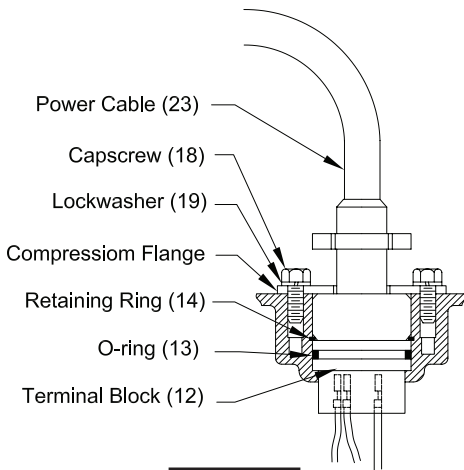

Figure 7
Pull the terminal block (12) out of the housing (10) using a T-bolt or a pair of pliers and a .25-20 screw in the threads of the terminal block (12) see Figure 7. Leave slack on the motor leads connected underneath. Use needle nose pliers to pull each female connector off of the pins on the underside of the terminal block (12). The voltage should be noted.